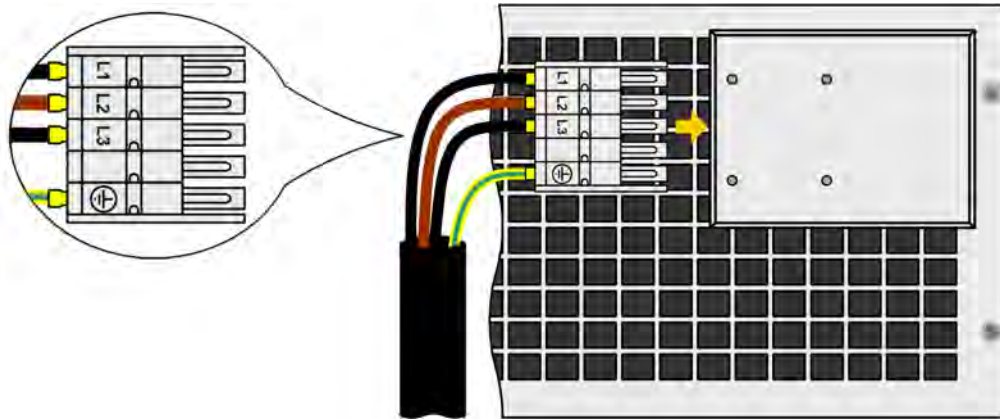

Figure 5-5: AC Input Mating Connector 480V – 3U Models - (Cable shown not included)
- The positive (+) sense cables must be connected to the positive terminal (+) on the load and negative (-) sense to the negative terminal (-) at the load, otherwise the sense input stage of the power supply can be damaged by the reversed polarity. See Figure 5-5 below for proper polarity.